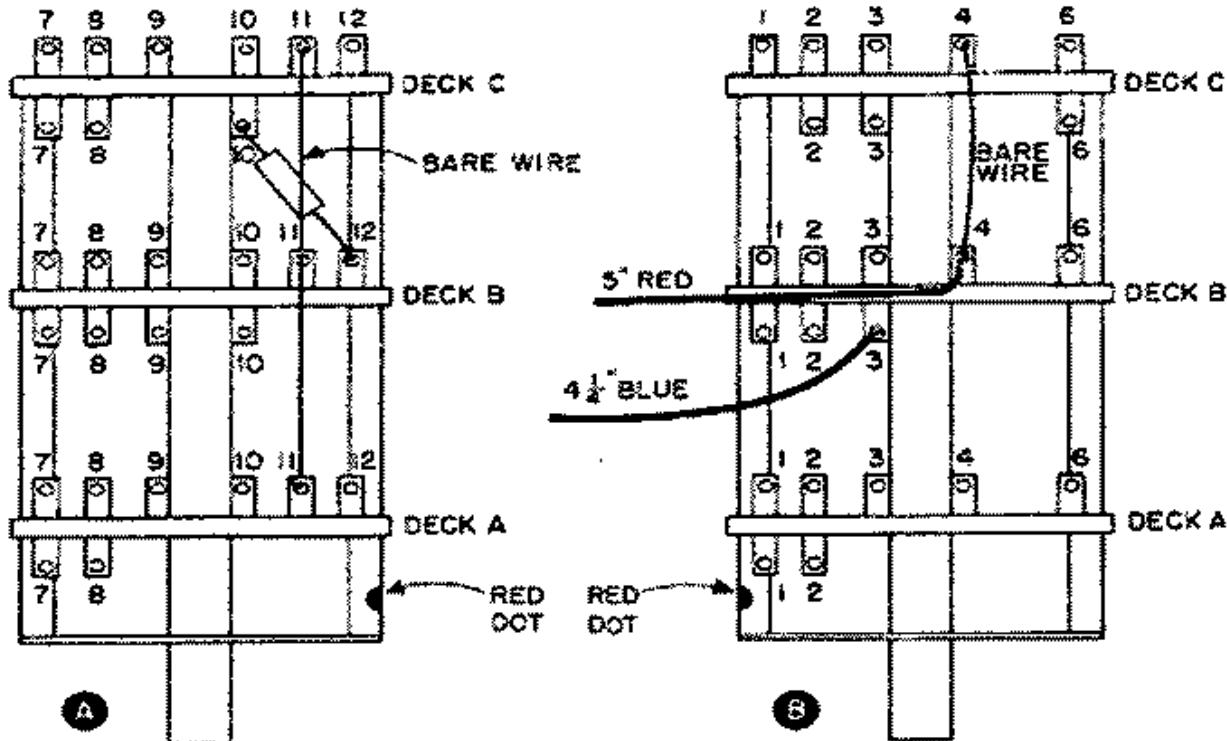

Figure 16 - Side view showing the wiring on deck B.
- () Insert a 2" bare wire through the hole in terminal 11, back of deck A from the front of the switch. Push the wire through terminal 11, back of deck B, and through terminal 11, back of deck C. Now bend a hook at terminal 11, back of deck A; cut off the excess wire and solder terminal 11, back of deck A. The position of this bare wire is shown in Fig. 16.